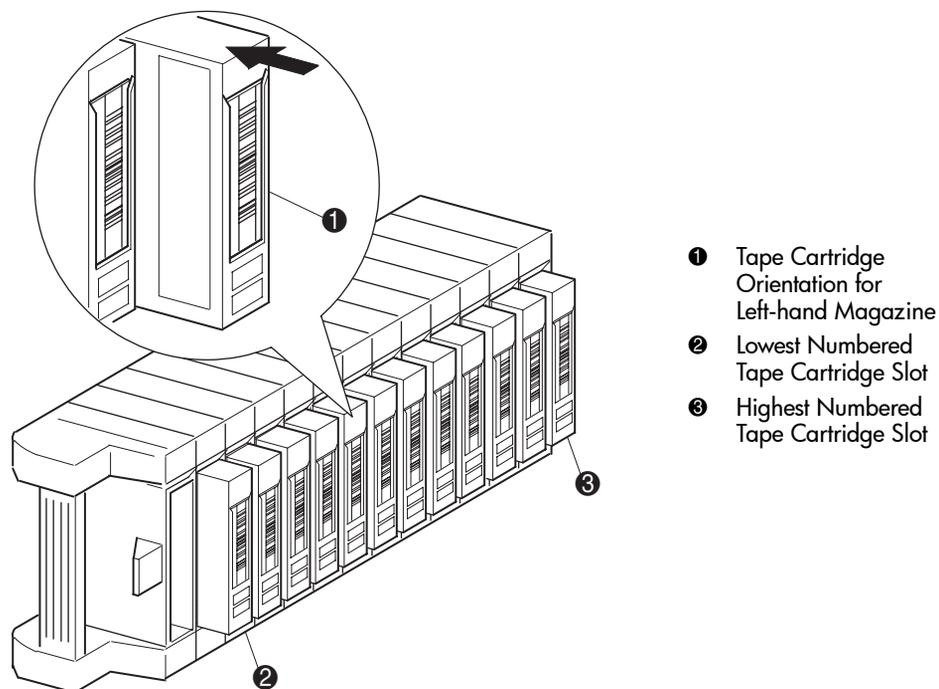

Figure 59: Inserting a tape cartridge (left-hand magazine, DLT shown)
A full left-hand magazine is shown in Figure 59. For two-drive models, the lowest numbered tape cartridge slot ❷ is the one closest to the front of the left-hand magazine. For four-drive models, the lowest numbered tape cartridge slot ❷ is the one closest to the front of the upper-left magazine.
Insert tape cartridges so that the bar code labels are facing outward (see Figure 59).